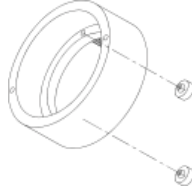

Fig. 6
**#EAA0247G23A Wheel guard** (Fig.6).